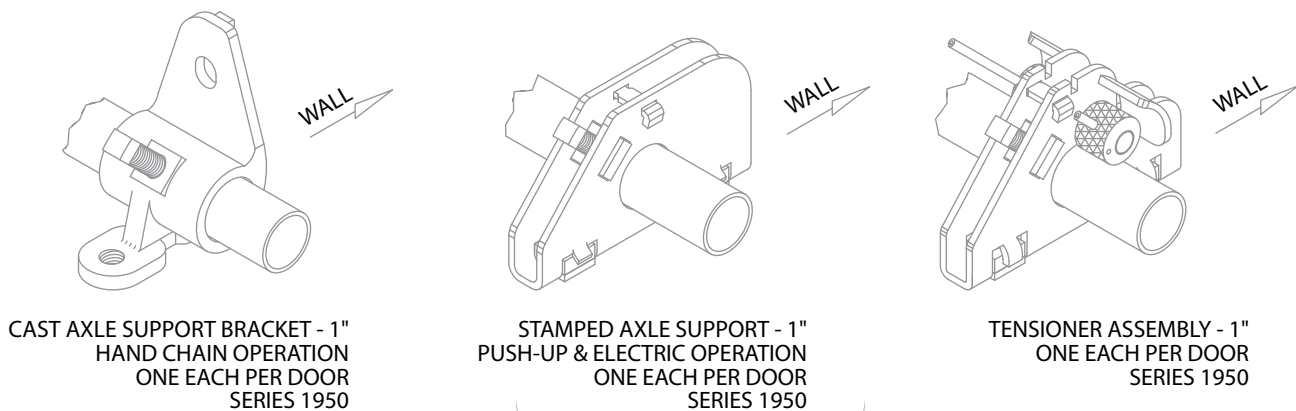

FIGURE 4
- B. Slide tensioner assembly over axle, with arrow pointing toward wall. Release pin. **See figures 4 and 6.**
- A. Slide stamped axle support over axle, with arrow pointing toward wall. **See figures 4 and 7.**
- C. Slide cast axle support bracket over axle. **See figures 4 and 8.**
- B. Slide stamped axle support over axle, with arrow pointing toward wall. **See figures 4 and 9.**
- A. Attach tensioner assembly to door bracket using 2 each 3/8-16 x 3/4" grade 5 hex bolts, 3/8" lock washers and 3/8" flat washers. **See figures 4 and 6.**
- A. Attach stamped axle support to door bracket using 2 each 3/8-16 x 3/4" grade 5 hex bolts, 3/8" lock washers and 3/8" flat washers. **See figures 4 and 7.**
- C. Connect cast axle support bracket to side of chain hoist using 3/8-16 x 3/4" hex bolt and 3/8" lock washer. **See figures 4 and 8.**
- A. Attach stamped axle support to door bracket using 2 each 3/8-16 x 3/4" grade 5 hex bolts, 3/8" lock washers and 3/8" flat washers. **See figures 4 and 9.**